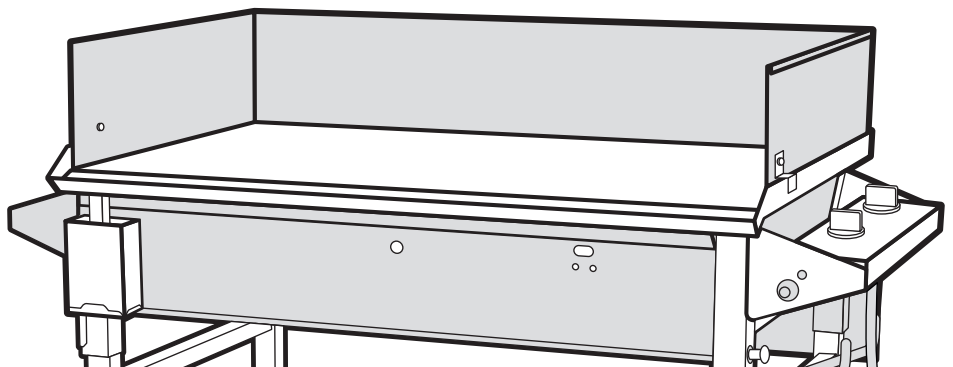

FIGURE F7
- 8.5.4 Figure F7 below shows the finished Splashback located on the inside of the Barbecue hotplate.